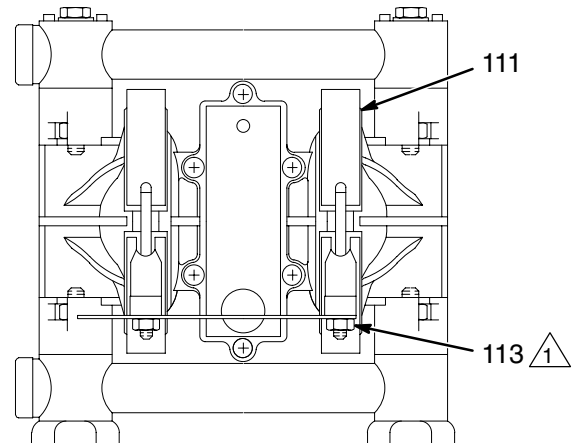

Fig. 7
When tightening the clamps (111), apply thread lubricant to the bolts and **be sure** to torque the nuts (113) to 5.6–6.8 N.m. See Fig. 7.